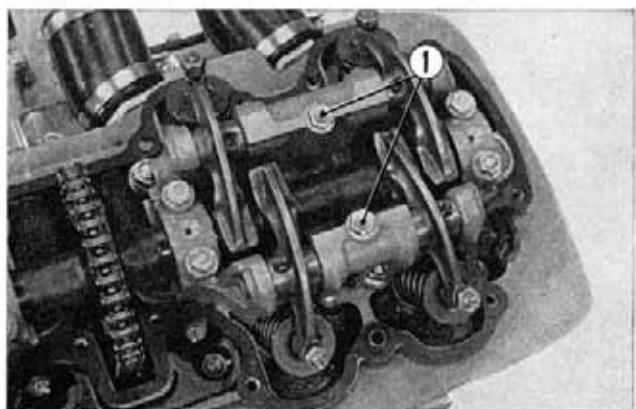

Fig. 3-43 ① Rocker arm shaft mounting bolts
5. Mount the rocker arm on the rocker arm shaft and install the mounting bolts. (Fig. 3-43)